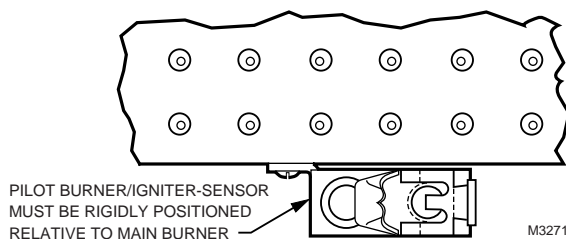

Fig. 13. Mount pilot burner/igniter-sensor on main burner.
- 2 Mount the pilot burner/igniter-sensor on the main burner. Mounting surfaces other than the main burner can shift, bend, or warp as the furnace expands and contracts during operation. See Fig. 13.